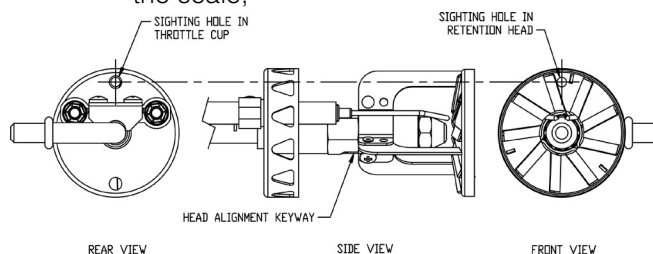

Figure 8-4: Retention Head/Throttle Cup Alignment
- i. Check retention head alignment. Cad cell sighting holes in the throttle cup and retention head must line up, so the cad cell can see the flame. Make sure that the "stamped key" in the retention head collar lines up with the "keyway" in the nozzle adapter, when mounting the retention head. See Figure 8-4.